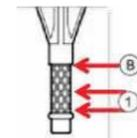

Fig. 1
- A. Engine is cold. Check the engine oil level with the oil dip stick. **Fig.1**
- B. Engine is at operating temperature. Check the engine oil level with the oil dip stick. **Fig.1**